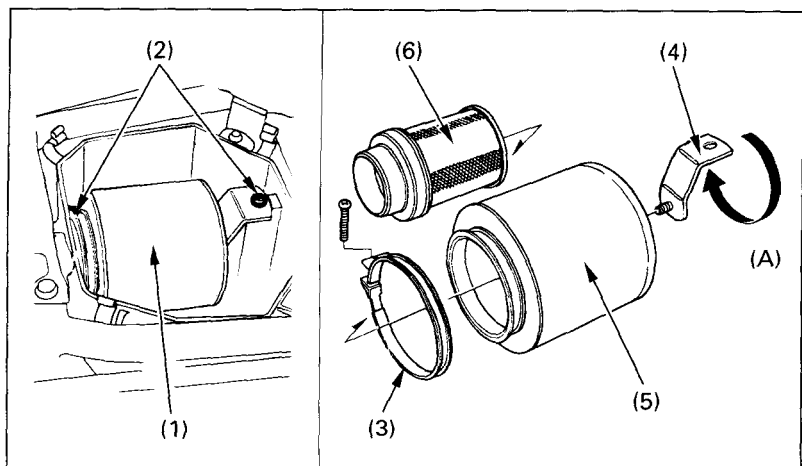

Fig. 4-6
3. Remove the screws (2) (Fig. 4-6) and remove the air cleaner assembly (1) from the air cleaner housing.
4. Unscrew the clamp (3) and remove the mounting bracket (4).
5. Remove the air cleaner (5) from the air cleaner body (6).